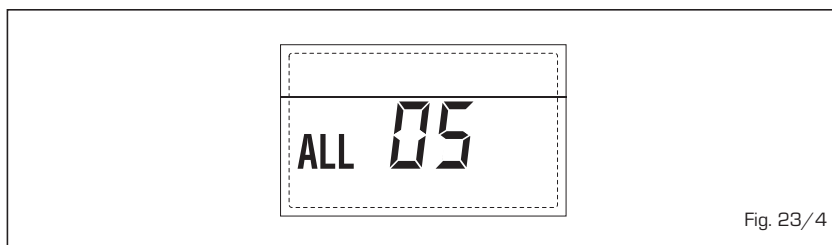

Fig. 23/4
– **BLOQUEO LLAMA “ALL 06” (fig. 23/5)**